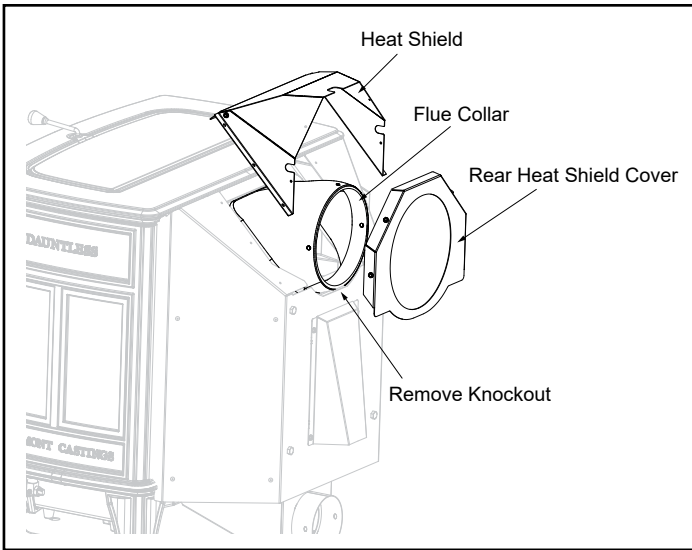

Figure 5.7
3. Turn flue collar to horizontal position. Inspect rope gasket located on the rear cast housing to ensure a leak free seal. Re-install flue collar, heat shield and heat shield cover, Figure 5.7.
**Note:** There is a knockout on the rear air jacket that will need to be removed prior to installing the flue collar for it to fit properly to the unit, Figure 5.7.